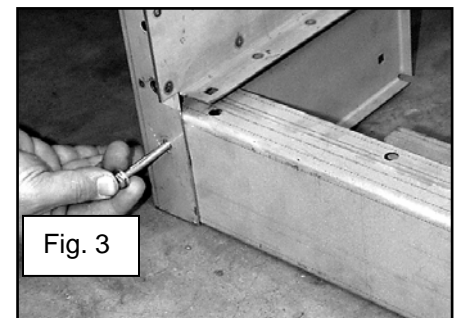

Fig. 3
4. Using (2) 1/4"-20 x 2-3/4" hex head bolts, nuts, and lock washers, bolt the rear cross sill to the stake pockets. Use only the bottom hole locations to attach the rear sill. See figure 3. There should be a 11/16" gap between the top of the rear cross sill and the lower lip of the bed side. This is where the wood will go.